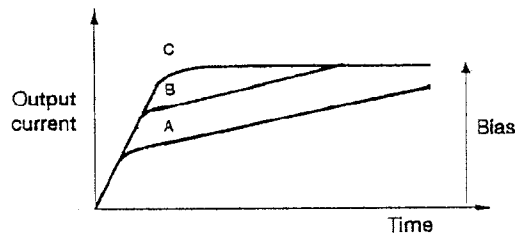

Fig:4 PHOTODIODE STEP RESPONSE VS BIAS
For a given resistivity of silicon and a stated wavelength, a typical family of curves shown in figure 4 above can be generated. (A) being with the lowest bias and (C) with the highest. Hence where high speed is required, applying bias has a positive effect. Once the depletion depth is sufficient for approximately 98% of the hole-electron pairs to be generated within this region, there is little advantage to be gained in increasing the bias still further.